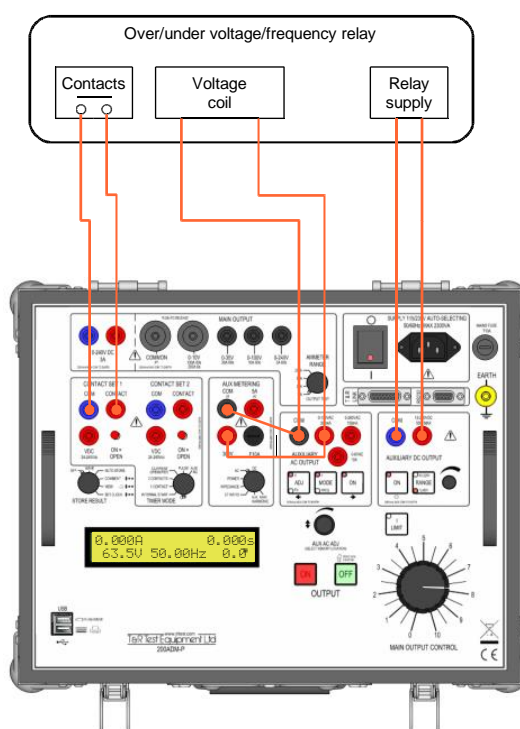

Figure 3.9 Connections for pick-up/drop-off test
1. Connections as for pick-up/drop-off test as figure 3.9.